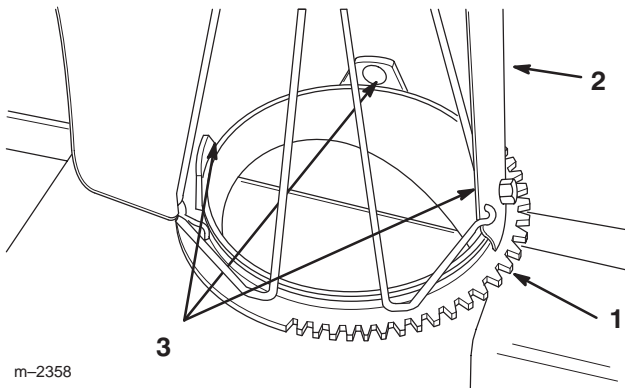

Figure 5
1. Rotate retain ring so teeth and mounting tabs are in correct position (Fig. 5).
2. Set discharge chute on retain ring (Fig. 5).
Secure back of chute to center tab with 5/16–18 x 5/8" (16 mm) carriage bolt, 5/16" (8 mm) flat washer, and 5/13–18 locknut (Fig. 5); but do not tighten locknut.
3. Secure chute to other tabs with (2) 5/16–18 x 5/8" (16 mm) carriage bolts, 5/16" (8 mm) flat washers, and 5/13–18 locknuts (Fig. 5).